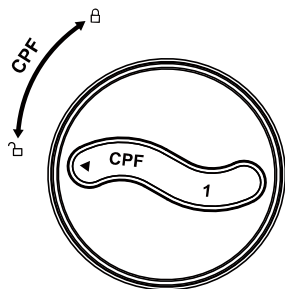

Figure 6
4. Rotate the old filter element for 90° anti-clockwise quickly, as the triangle icon on top of filter element pointed at  icon, take out the old element(As Figure 6).